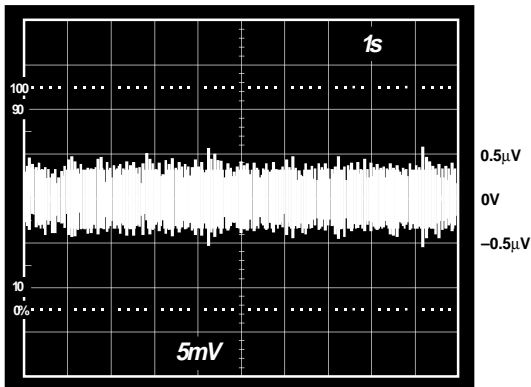
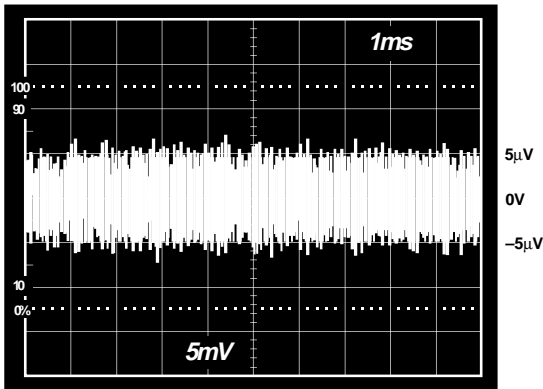

Figure 17. Low Frequency Voltage Noise from 0.1 Hz to 10 Hz*
Figure 19. Voltage Noise from 0 kHz to 10 kHz*
*The photographs in Figure 17 through Figure 19 were taken at $V_S = \pm 15V$ and $T_A = +25^\circ C$, using an external amplifier with a gain of 1000.
*The photographs in Figure 17 through Figure 19 were taken at $V_S = \pm 15\text{ V}$ and $T_A = +25^\circ\text{C}$, using an external amplifier with a gain of 1000.